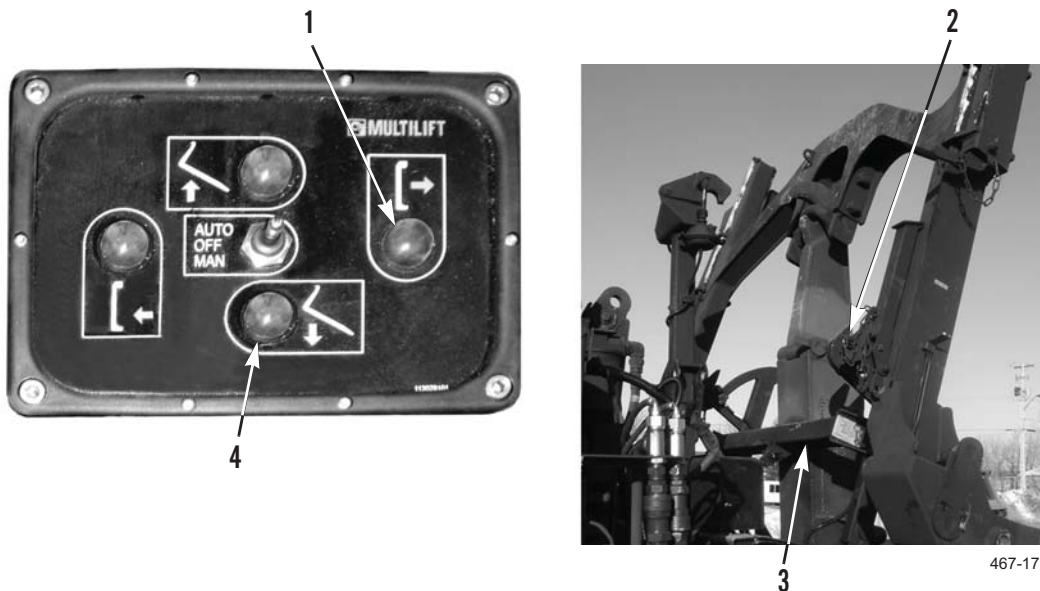

Figure 40. Lift Frame Positioned on Stowage Guide.
3. Press and hold RETRIEVE button (Figure 40, Item 1). As soon as stowage guide (Figure 40, Item 3) has stopped tilting rearward, release button.
4. Stowage guide (Figure 40, Item 3) will be positioned under stowage rollers on lift frame (Figure 40, Item 2).
5. Press and hold DOWN button (Figure 40, Item 4). As soon as hook arm stops moving, release button.